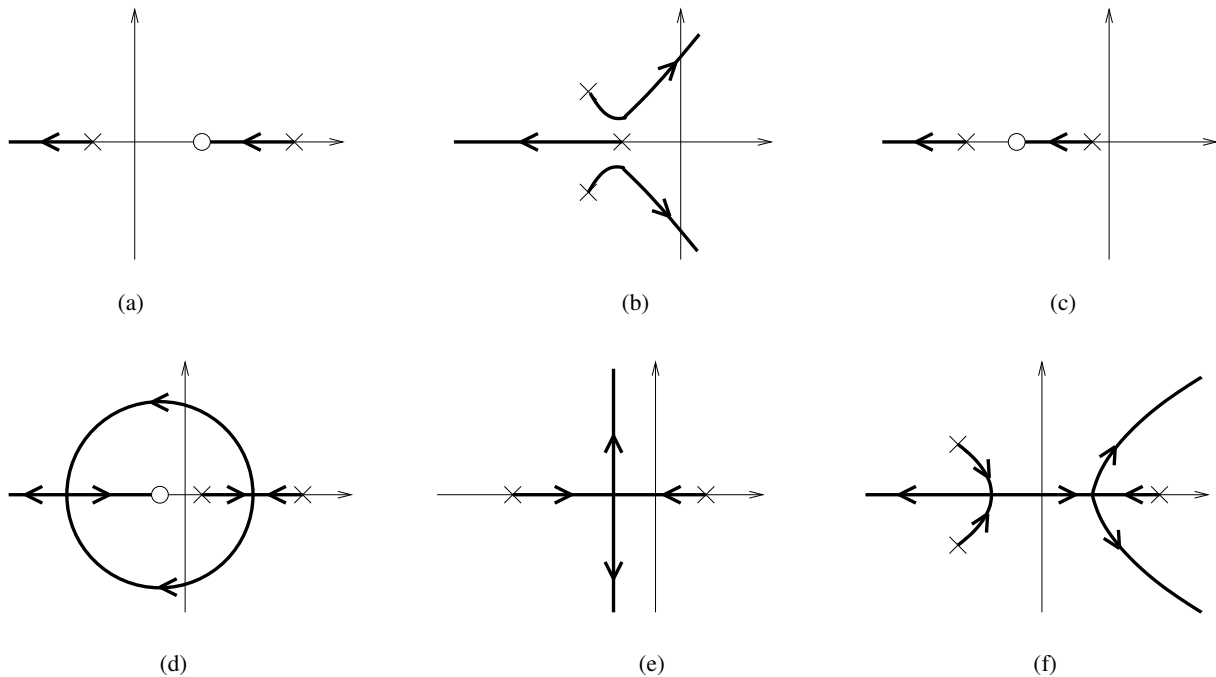

Figure 1: Root loci for Problem 3.
- For each root locus of Figure 1 indicate which of the following applies.